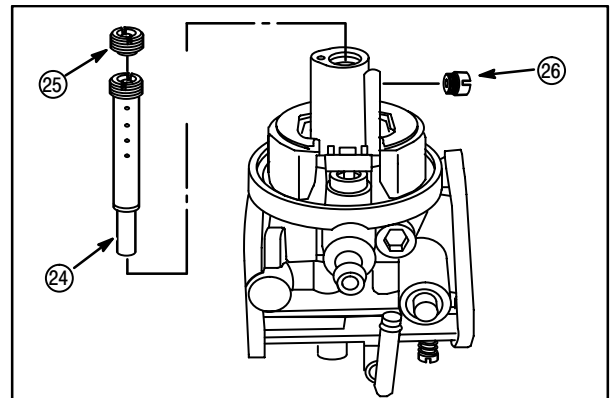

**Fig. 55**
14. Install pilot jet (23), **Fig. 55**.
15. Install idle mixture screw (21) and spring (22).